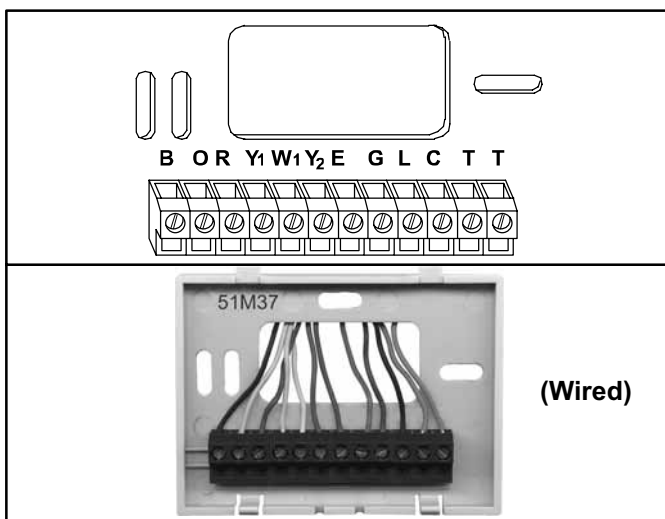

Figure 3. L3532H Terminal Strip
- L3532H - See table 3 and figure 3.